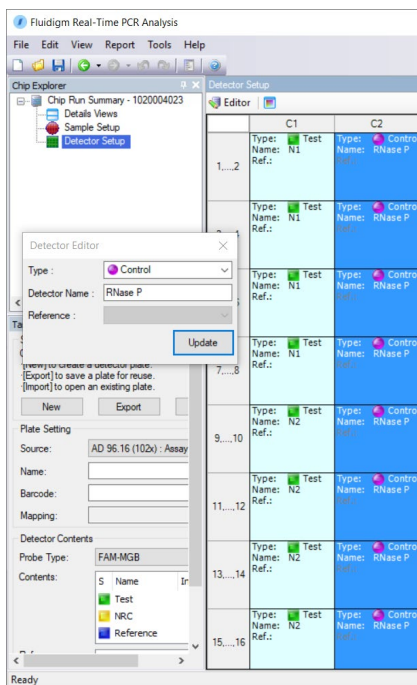

Figure 18. Detector Setup pane
- 3 Annotate the samples for the first analysis of a new IFC run (**Figure 18**):